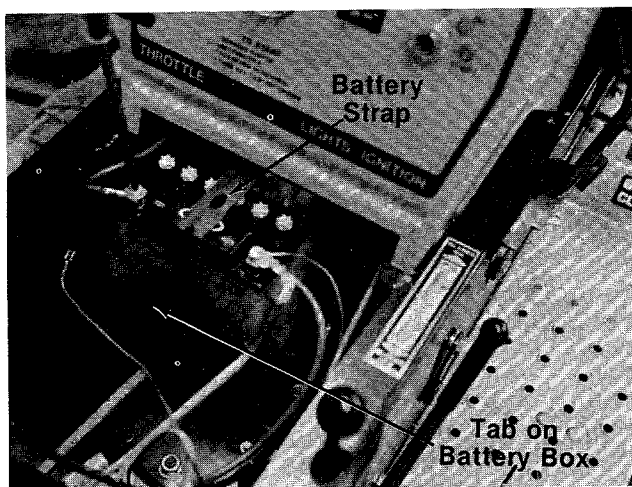

**FIGURE 10.**
5. Loop one end of battery strap (G) around the tab on battery box shown in figure 9. Hold the battery strap out of the way. Place the battery in the lawn tractor so that the positive terminal is facing the right side of the unit. See figure 10.